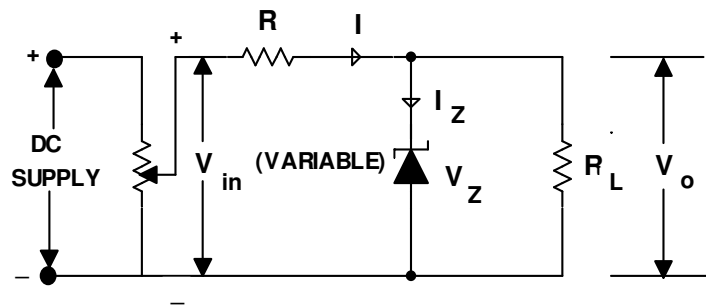

Fig. 53.1
**Marks (4)**
**Marks (6)**
**Ans:** **Zener Diode:** Zener diode is specially designed silicon diode which is optimized to operate in the breakdown region. Zener diode is used as a voltage regulator: Fig.53.1 shows the circuit arrangement. The zener diode of zener voltage  $V_z$  is reverse connected across the  $R_L$  across which constant voltage ( $V_o = V_z$ ) is desired. A resistor  $R$  is connected in series with the circuit which absorbs the output voltage fluctuations so as to maintain constant voltage ( $V_o$ ) across the load.